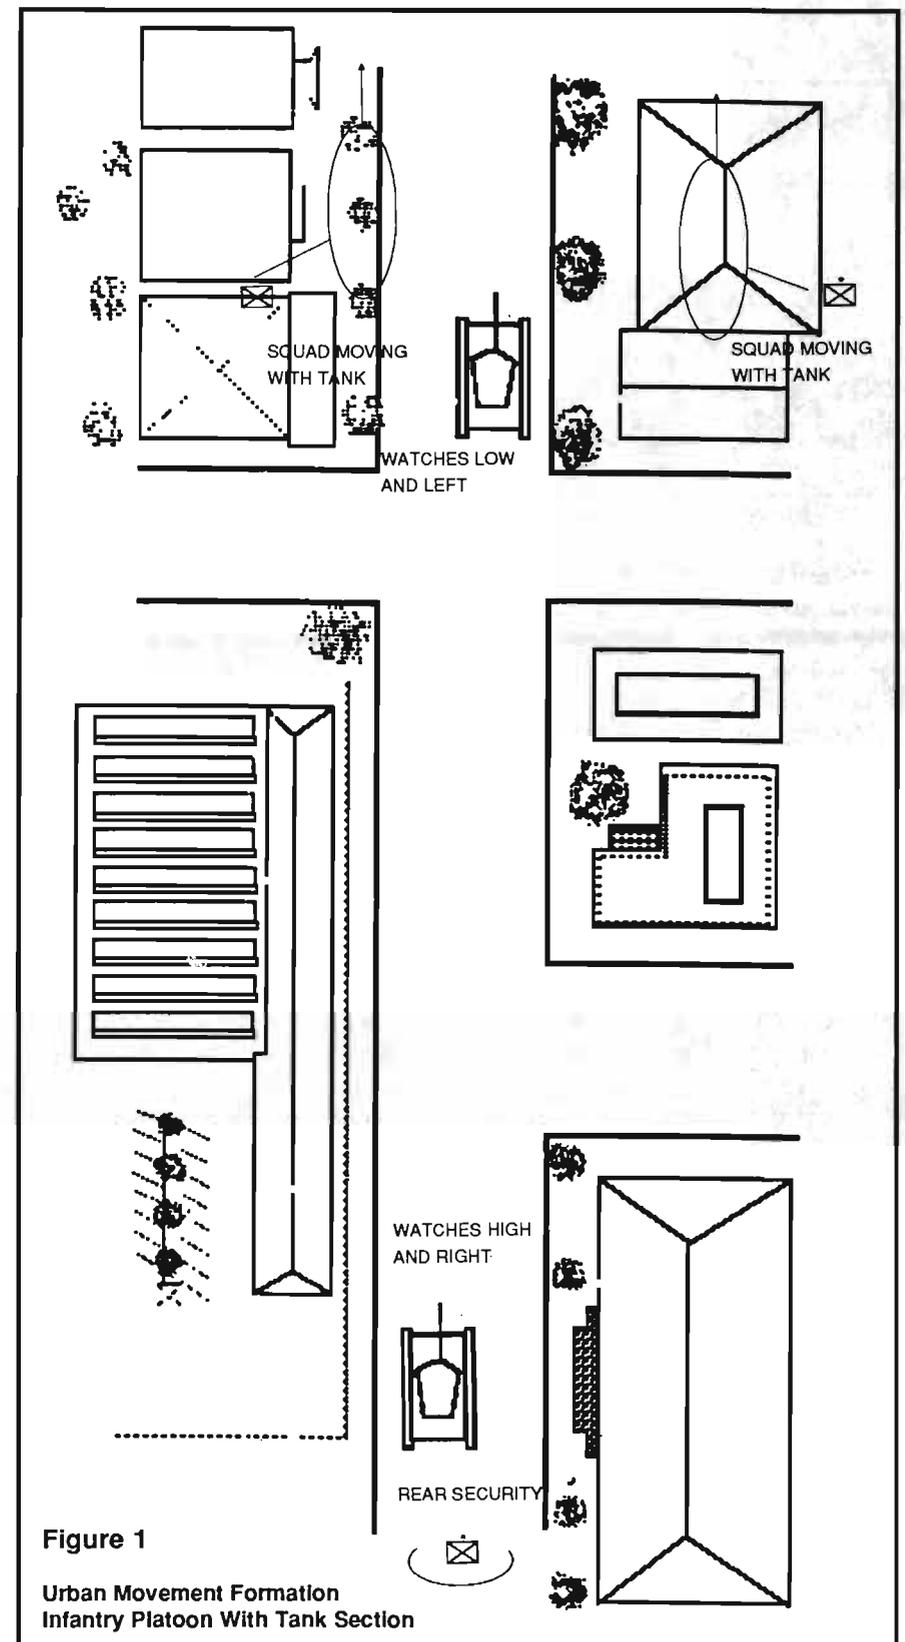

Figure 1
- If the infantry got out ahead of the tanks, their attacks usually failed at high cost. Conversely, if tanks got out ahead of infantry, they were quickly damaged and often destroyed by fire from flanks and rear. See Figure 1 for an effective platoon formation.
- Rear security is critical. The OPFOR soon discovered that stay-behind tactics were the most effective. Infantrymen should always be assigned to this role, no matter what the size of the unit accompanying the tanks (see Figure 1).